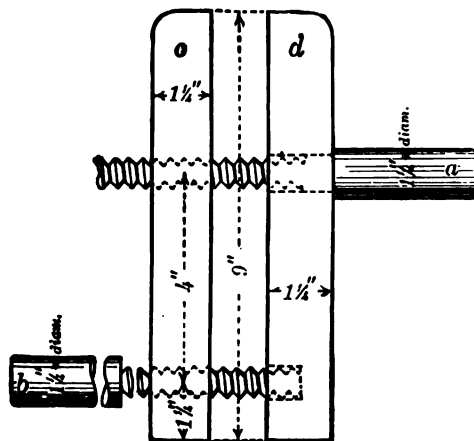

Fig. 69.
*Clamps* are also used for holding pieces of wood together, while the glue is hardening; they are made of iron or wood. The former are sometimes 6 feet or more long for very large work, but generally those most in use will only take in a few inches. A very convenient kind of clamp (Figs. 69, 70)
These clamps, like the old woman's tooth plane, are generally "home-made," that is, made by the workman himself, and not bought, and they are made to suit his own fancy. The jaws may be narrow and thick, such as  $1\frac{3}{4}$  inch, or 2 inches square, or broad and thin as described above (Figs. 69, 70), and they may be 10 or 12 inches long. They are better for work within their capacity than iron clamps, but the screws should be kept well black-leaded.